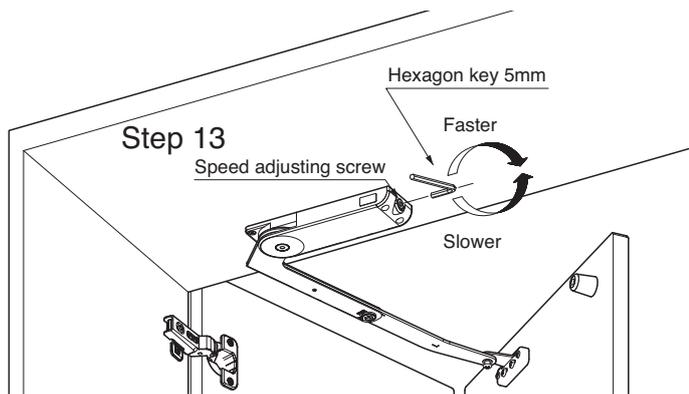

Fig. 12. Adjustment of door opening and closing speed (for right-hand side)
step13 Opening and closing the door, adjust the door opening and closing speed with the speed adjusting screw on the backside of the body. Speed adjustment is carried out with the 5mm hexagon key (Fig. 12).